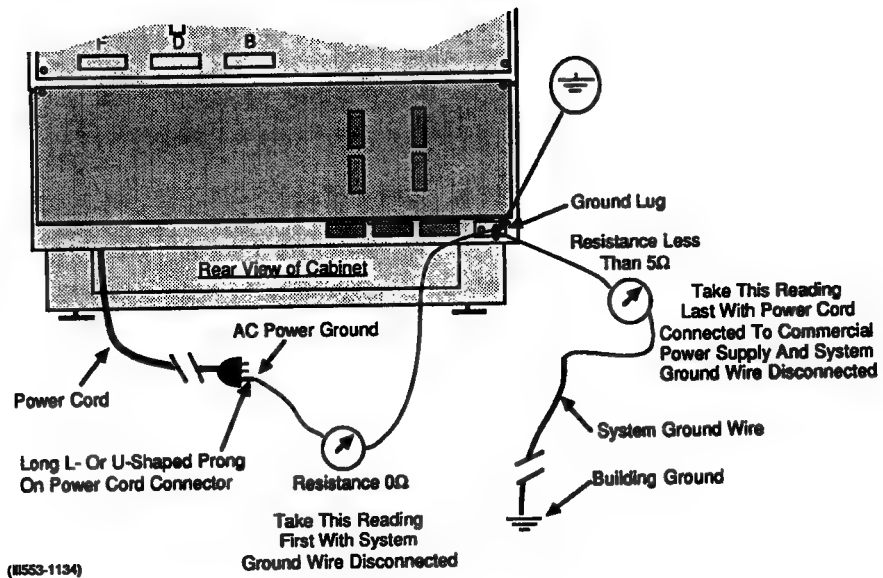

Figure 2-2
- 18 If cabinet is not equipped with a built-in cross connect terminal, install connecting blocks at cross-connect terminal. A typical wall-mounted terminal block layout is shown in Fig. 2-2.
- 21 Install and terminate Peripheral Equipment (PE) cables to cross connect terminal. Cable terminating sequence is given in Table 2-A.